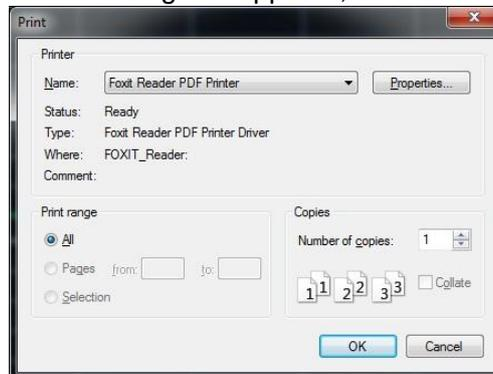

Fig. 3.21 Print dialog box
**Step 1.** Press the **【Print】** key. "Print" dialog box appears, as shown in Fig. 3.21.